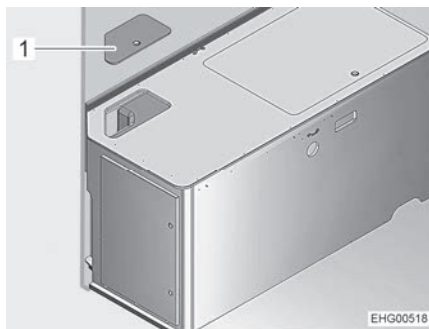

Fig. 126 Bedding box on the left
- Remove the service cover (Fig. 126,1).